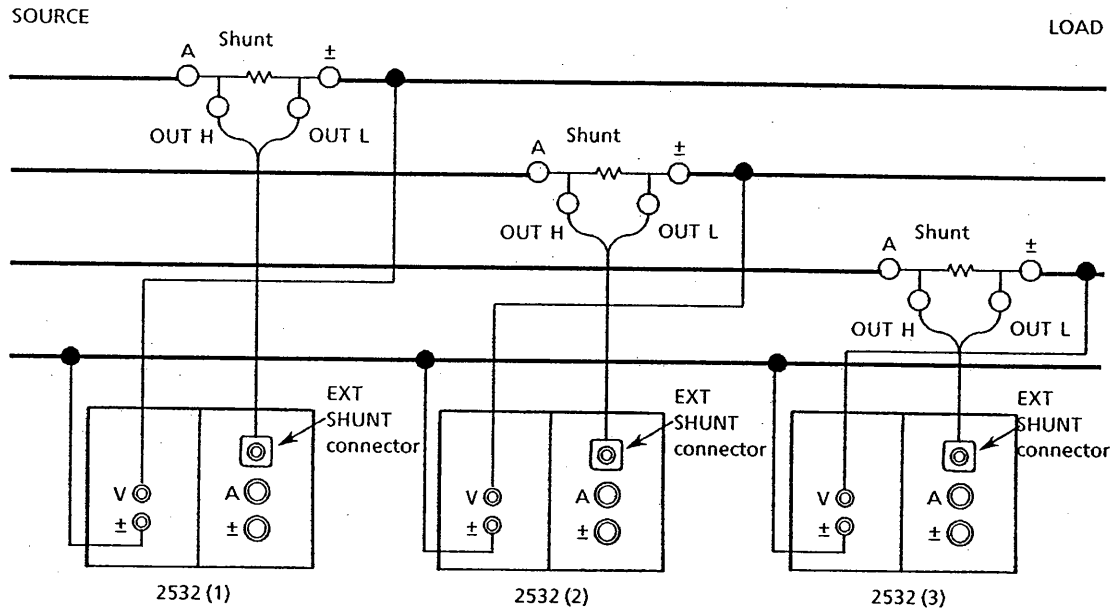

Figure 3.18
The wiring method shown in Figure 3.18 results in connections that do not follow the guidelines in CAUTION item (b) in Section 3.3.1 (1) suggesting that "±" terminals always be connected to the low side; see the discussion under that item concerning the error effects that may result.